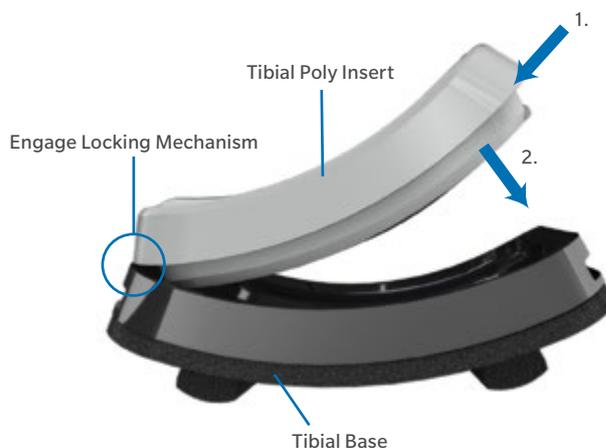

Fig. 87
- Slide one end of the Tibial Poly Insert into the Tibial Base (Fig. 87).